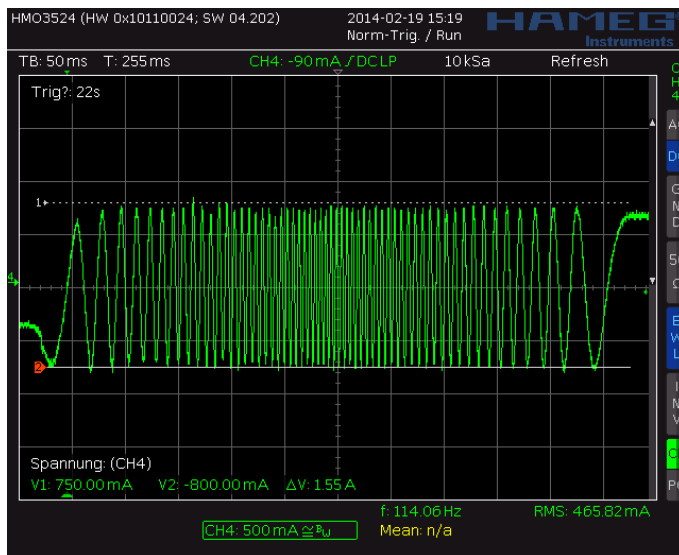
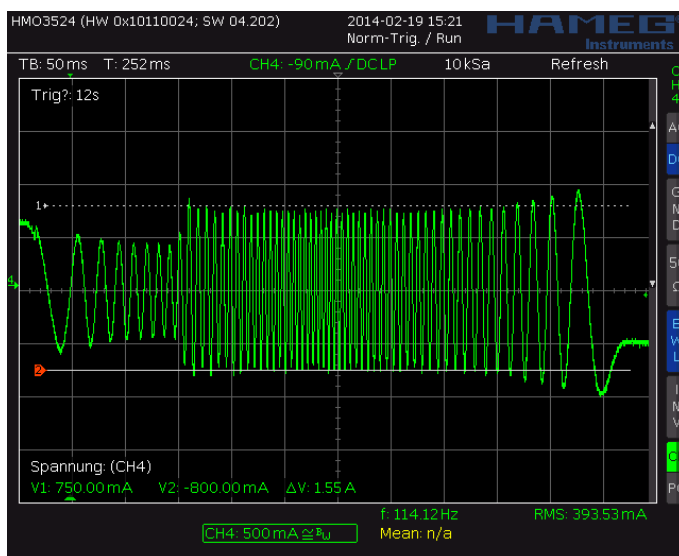
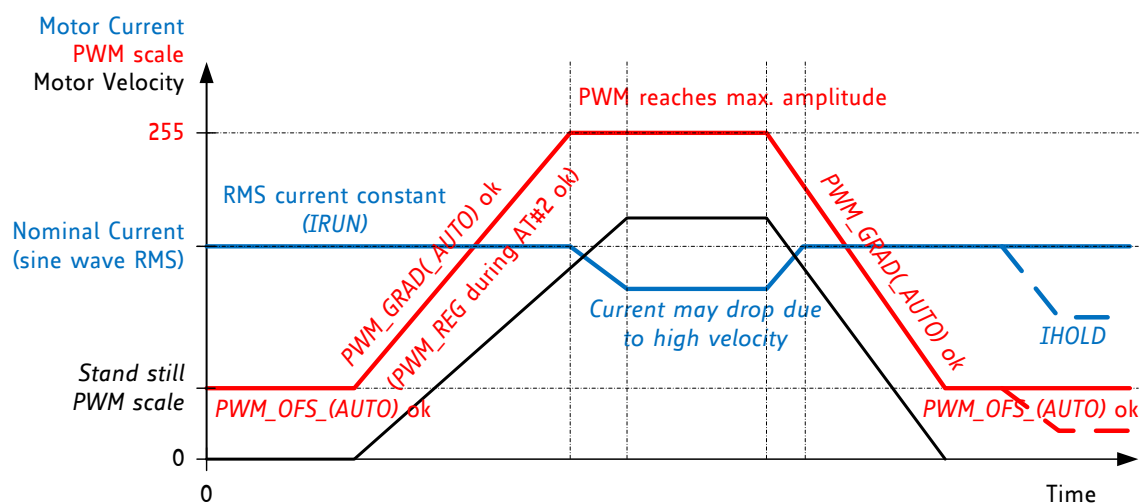

Figure 6.3 Scope shot: good setting for PWM\_REG
Figure 6.4 Scope shot: too small setting for PWM\_REG during AT#2
Figure 6.5 Successfully determined PWM\_GRAD(AUTO) and PWM\_OFS(AUTO)
In StealthChop voltage PWM mode, the autoscaling function (*pwm\_autoscale* = 1, *pwm\_autograd* = 1) regulates the motor current to the desired current setting. Automatic scaling is used as part of the automatic tuning process (AT), and for subsequent tracking of changes within the motor parameters. The driver measures the motor current during the chopper on time and uses a proportional regulator to regulate *PWM\_SCALE\_AUTO* in order match the motor current to the target current. *PWM\_REG* is the proportionality coefficient for this regulator. Basically, the proportionality coefficient should be as small as possible in order to get a stable and soft regulation behavior, but it must be large enough to allow the driver to quickly react to changes caused by variation of the motor target current (e.g. change of VREF). During initial tuning step AT#2, *PWM\_REG* also compensates for the change of motor velocity. Therefore, a high acceleration during AT#2 will require a higher setting of *PWM\_REG*. With careful selection of homing velocity and acceleration, a minimum setting of the regulation gradient often is sufficient (*PWM\_REG*=1). *PWM\_REG* setting should be optimized for the fastest required acceleration and deceleration ramp (compare Figure 6.3 and Figure 6.4). The quality of the setting *PWM\_REG* in phase AT#2 and the finished automatic tuning procedure (or non-automatic settings for *PWM\_OFS* and *PWM\_GRAD*) can be examined when monitoring motor current during an acceleration phase Figure 6.5.